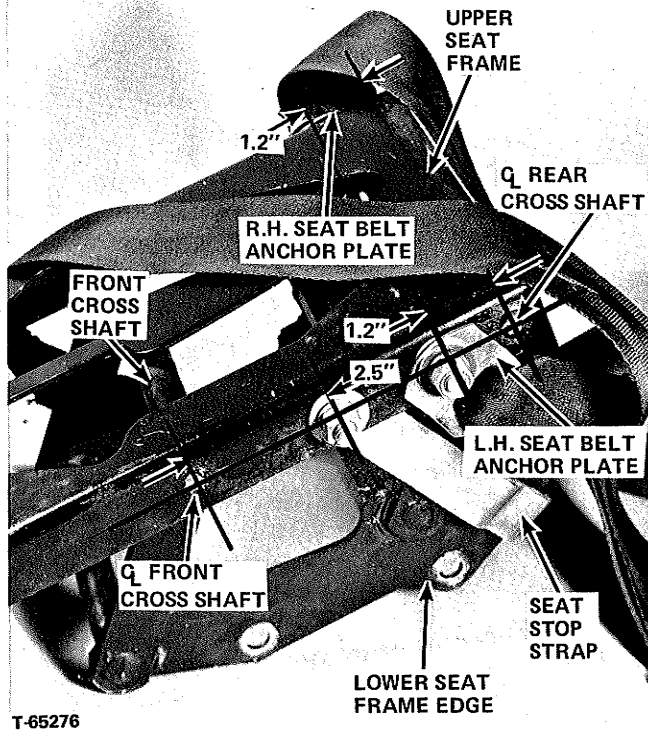
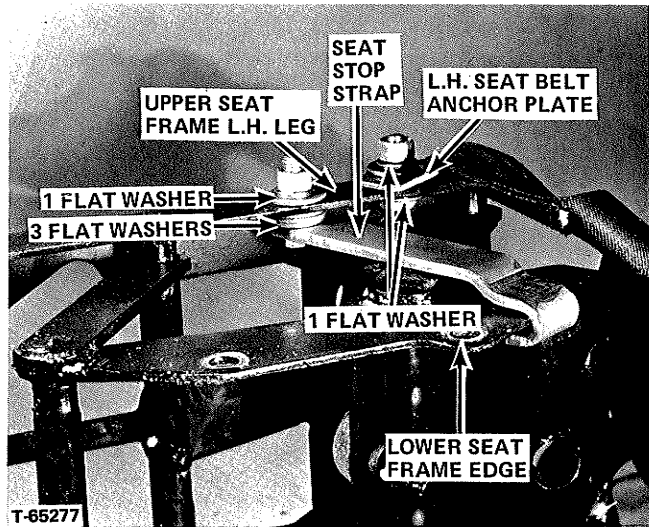

FIGURE 5 - Seat Frame Viewed from L.H. Upper Side
FIGURE 6 - Seat Frame Viewed from Beneath Lower L.H. Side.
7. Install seat belt to seat frame as follows: Drill a .406" diameter hole in each leg of the upper seat frame 1.2" forward from the center line of the rear cross shaft as shown in Figure 5. In each hole install a .375" by 1" grade 5 plated capscrew from the inside outward with a .406" x 1.0" x .06" thick flatwasher between capscrew head and inside of leg of the seat frame, another flatwasher against the outside of the leg, a seat belt anchor plate, another flatwasher, lockwasher and nut. Turn each anchor plate downward and to the rear as shown in Figure 5 and tighten nuts to 23 ft.-lbs. (31 N · m) of torque.
8. Drill another .406" hole in the L.H. leg of the upper seat frame 2.5" to the rear of the centerline of the front cross shaft as shown in Figure 5. Install the seat stop strap with a .375" x 1.25" grade 5 plated capscrew with head inside of seat frame leg, the seat stop strap next to capscrew head, three, .406" x 1.0" x .06" flatwashers between the strap and inside of the seat frame leg, another flatwasher, lockwasher and nut on capscrew on outside of seat frame leg. Make sure that the lower end of seat stop strap is hooked over the edge of the lower seat frame as shown in Figure 6 and tighten capscrew and nut to 23 ft.-lbs. (31 N · m) of torque.